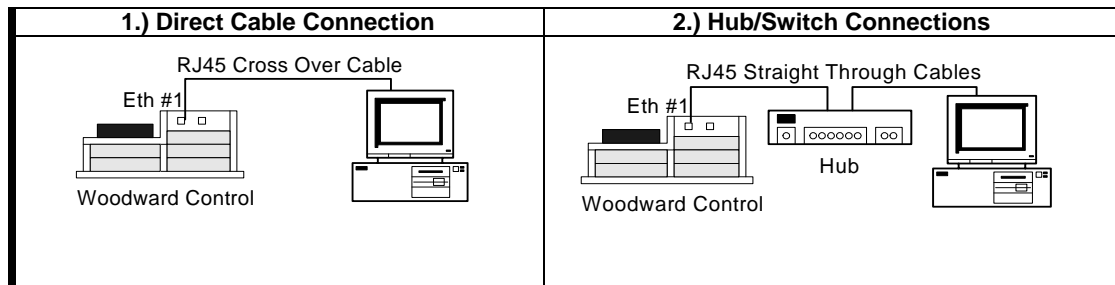

Figure 2-2. Network Cable Connections
To avoid IP address conflicts on your network, isolate the control and your PC that you will be using for setting up the control, from the network. Figure 2-2 shows examples of two recommended methods.
2. Connect as shown in Figure 2-2 and power up the AtlasPC.